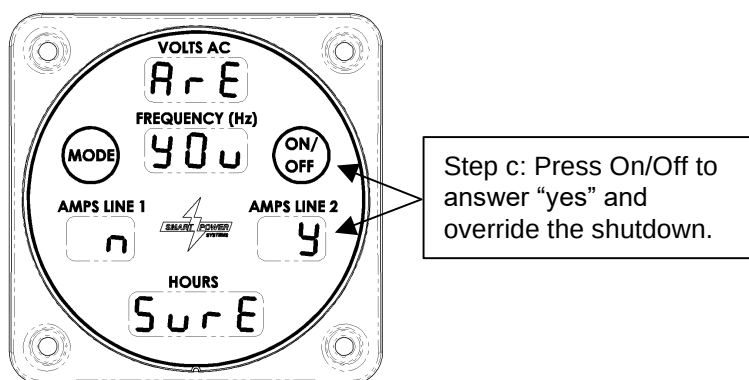

Figure 22 – Hot Oil Fault Override Confirmation
- If your answer was "yes" in the previous step, the confirmation screen shown in Figure 22 will be displayed. Again note the *y* and *n* labels below the Mode and On/Off switches. Press the On/Off switch to answer "yes" and override the shutdown. Press Mode to answer "no" and proceed to the oil temperature display.